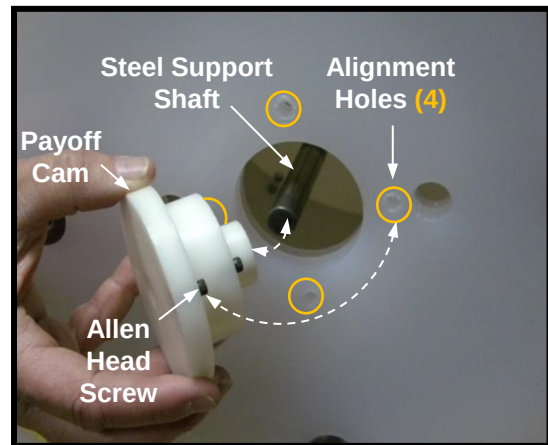

Figure 20
See Fig. 20
10.2 Install two Reel Payoff Cams into the fiber reel bushings and insert the Steel Shaft through center of Payoff Cams. **See Fig. 20**